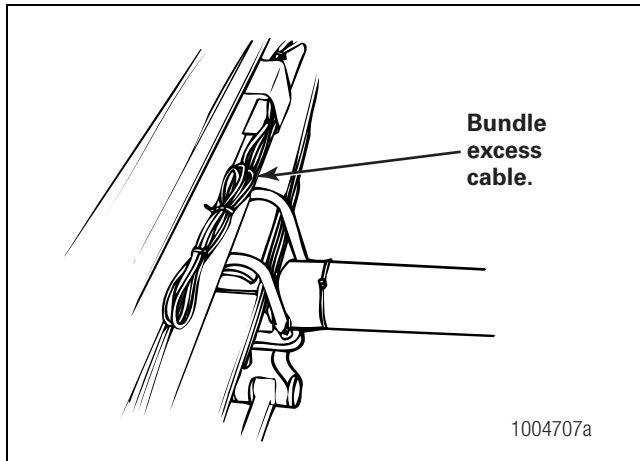

Figure 4.65
7. Fasten the sensor cable with tie wraps every 12 inches. Do not overtighten the tie wraps. Correctly bundle and store any excess cable in the sub-frame. Figure 4.65.
7. Fasten the sensor cable with tie wraps every 12 inches. Do not overtighten the tie wraps. Correctly bundle and store excess cable in the sub-frame. Figure 4.65.